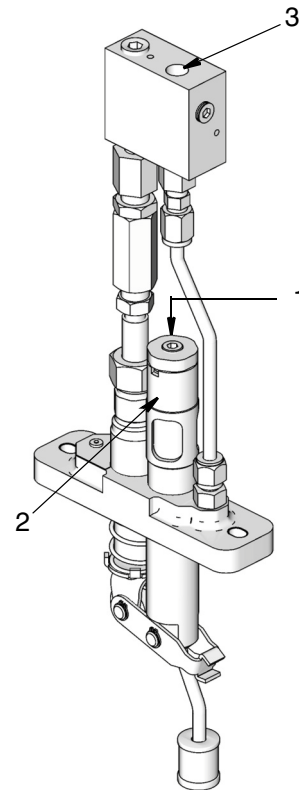

FIG. 7
Alarm Pump Models (FIG. 7)
2. Install pressure sensor into sensor output (3) (FIG. 7).